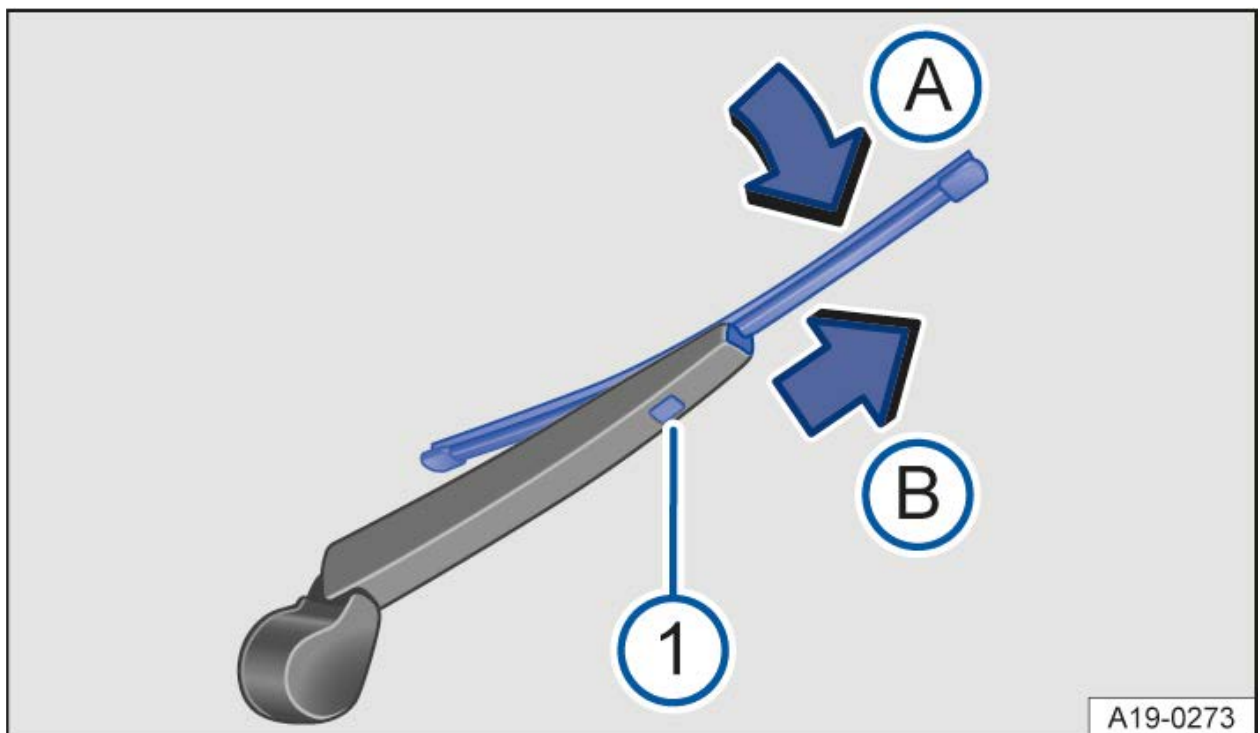

Fig. 2 Replacing the rear window wiper blade.
- Press and hold the release button → *fig. 2* (1).
- Tilt the wiper blade toward the wiper arm → *fig. 2* (arrow (A)) while removing it in the direction of the arrow (B). You may need to use more force to do this.
- Insert a new wiper blade of the **same length and type** on the wiper arm in the opposite direction of the arrow until it engages → *fig. 2* (arrow (B)). The wiper blade must be folded out when doing this → *fig. 2* (arrow (A)).